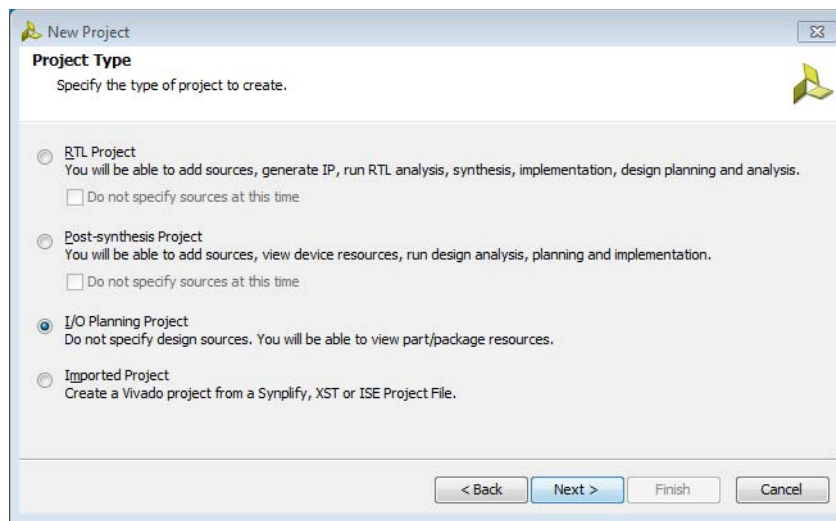

Figure 2-2: New Project Wizard—Project Type Page
- In the Project Type page (Figure 2-2), specify the type of project, which determines the types of source files that are associated with the project.